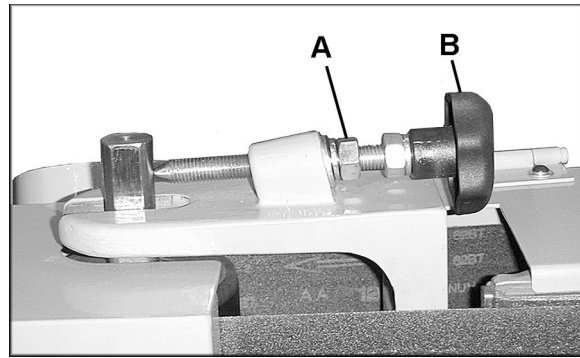

Figure 18
After operating the machine, further minute adjustments may be needed to the tracking. This can be done with the machine turned ON and the sanding belt in motion. Turning the tracking adjustment knob (B, Figure 18) should always be done gradually and in small increments.
1. Loosen the nut (A, Figure 18).
2. Turn the adjustment knob (B, Figure 18) counter-clockwise to shift the belt upward; clockwise to shift the belt downward.
3. When the belt is centered and tracking properly, tighten nut (A, Figure 18).